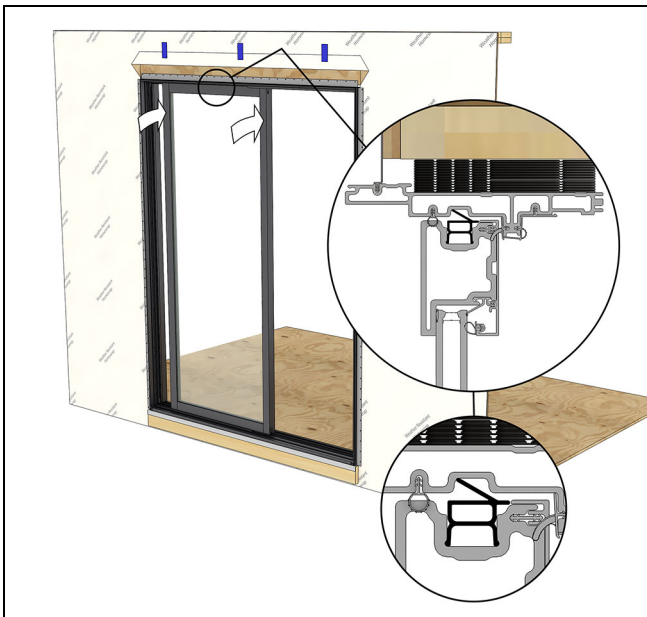

Figure 70
1. From the exterior, install your (C) stationary panel. Set the panel on the exterior track a few inches from the jamb and tip into place. Press the top in to engage the panel retainers in the frame. When fully seated you will hear an audible, "click". See Figure 68, Figure 69, and Figure 70.